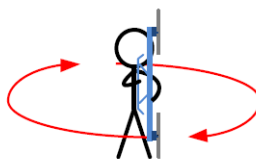

Fig.2
4. (Fig.2) Hold your Multi-rotor vertically and rotate it (its nose is downward) around the gravitational force line (about 360o) until the LED turns off, meaning the calibration is finished.